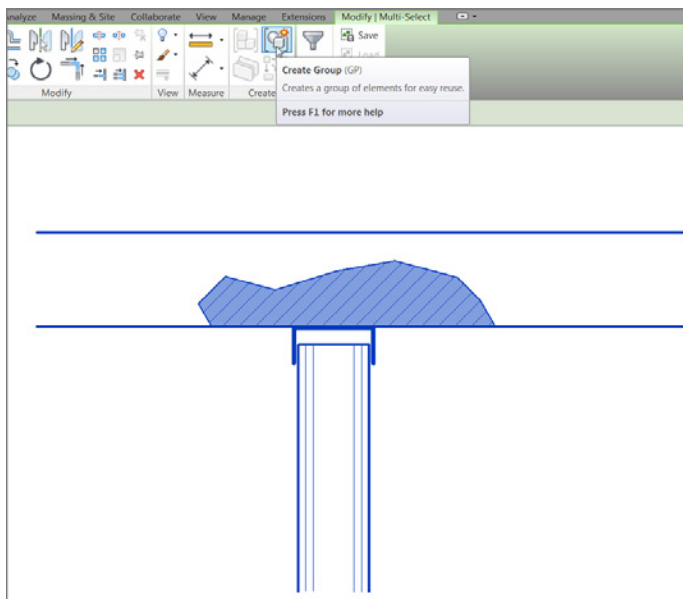

FIGURE 12.67: The Create Group button on the Create tab
2. On the Modify | Multi-Select tab in the Create panel, click the Create Group button, as shown in Figure 12.67.